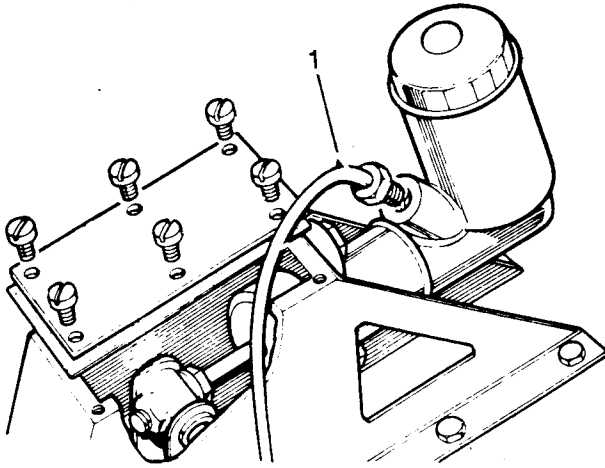

Fig H3.9
(2) Refer to Fig H3.9. Disconnect the fluid pipe (1) from the clutch master cylinder.